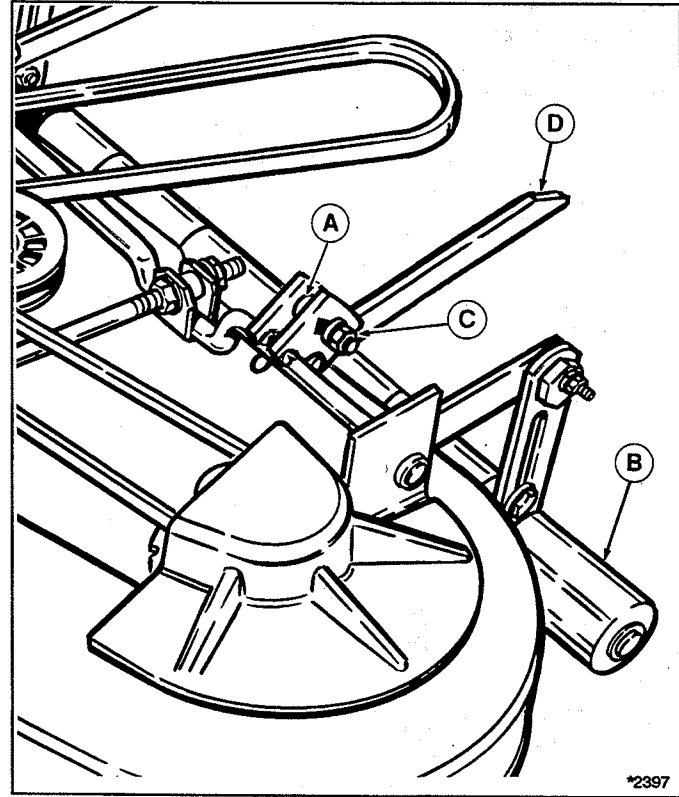

Figure 25. Transport Height Adjustment
2. Loosen nut (C, figure 25) so trailing arms are loose. Mower must be resting on rollers with no weight on trailing arms. Transport Height Adjustment should be made after Mower Leveling Adjustment.
Transport height should be adjusted so that rear mower rollers (B, figure 25) are 1/8"-1/4" (3-6 mm) above ground when mower lift lever is in transport position. To adjust height perform adjustments under Mower Leveling first, then use the following procedure: